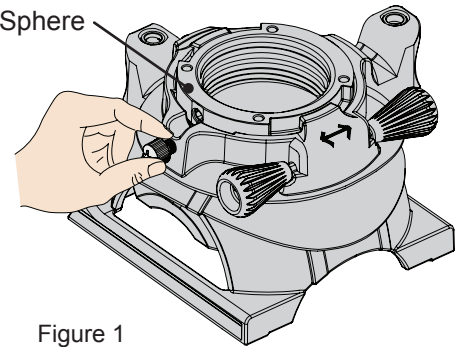

Figure 1
- 1 Finger-tighten the knurl knob until it makes firm contact with the FTP Support Sphere (Figure 1).